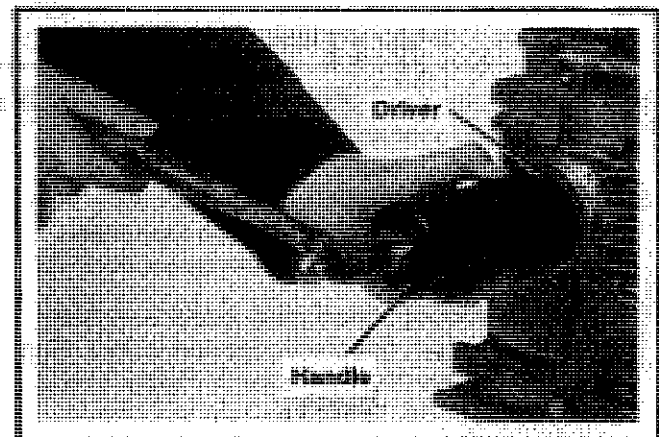

Figure 11-24. Installing Oil Seal Using Driver.
2. Using the #11795 handle and appropriate seal driver, install the front oil seal to a depth of **1/32"** (+3/64"; -1/64"). Refer to Figure 11-24.
4. Using the #11795 handle and appropriate seal driver, install the rear oil seal to a depth of 5/32" (+3/64"; -1/64"). Refer to Figure 11-24.